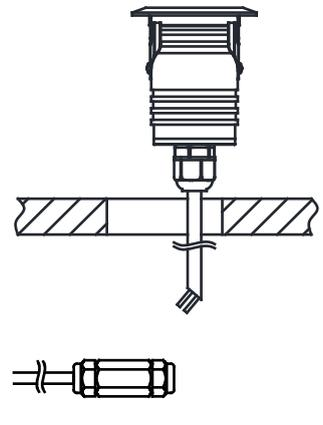

Fig 1.3
1.3 Connect the light fixture cable to the junction box. (See Fig 1.3)